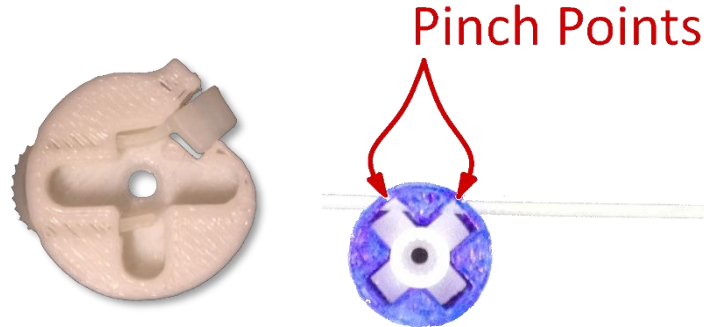
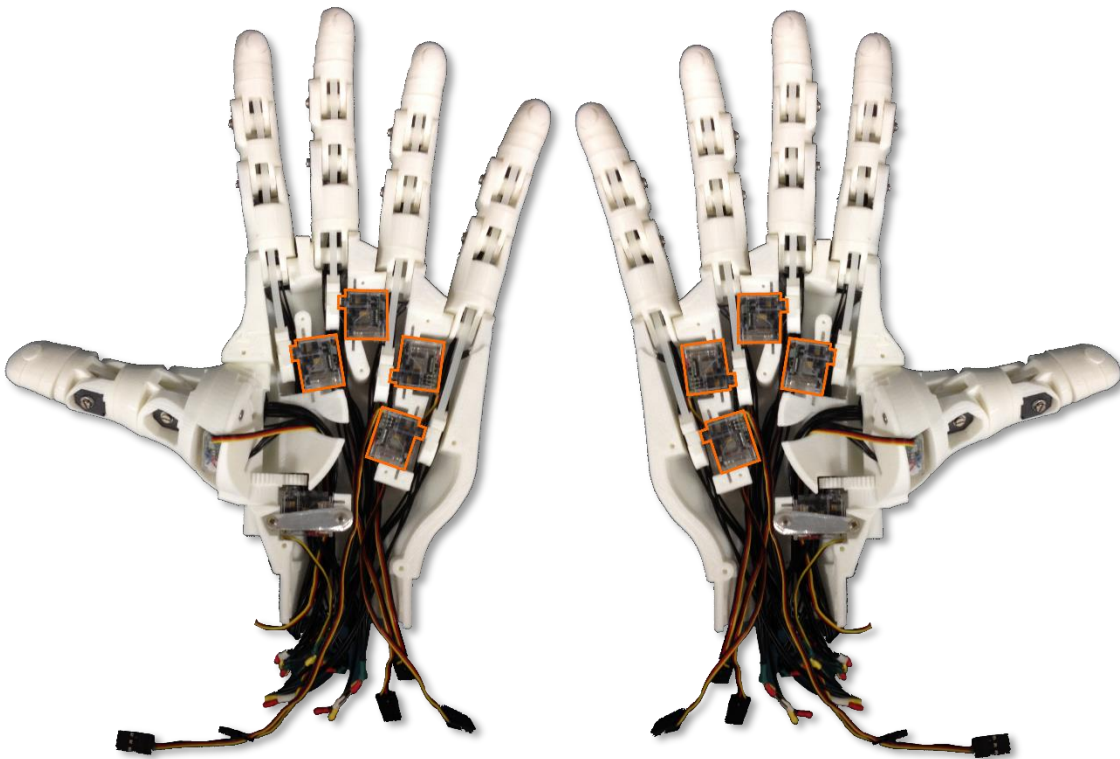

Figure 16: Zip-tie receiver installed in servo spool (left), and zip-tie installed in thumb servo spool (right)
Figure 20: Servo installation and finger tensioning complete, showing servo positions for right and left hand
1. Rotate servo to the full forward position using the Arduino sketch Pot_to_Servo_Control.ino. Wiring for this sketch is explained in section 13.1 . See Figure 16 for the definition of full forward position. Servo orientation matters for this operation, and changes depending on the finger in question. Refer to Figure 20 for correct servo positioning.
6. Pass the tendon zip-tie through the zip-tie receiver on the servo spool (or through the spool itself in the case of the thumb spool). There should be no slack in the zip-tie when the finger is fully extended, the servo is fully rotated forward, and the servo is installed in the dorsal palm. Trim the free end of the tendon zip-tie. Figure 20 shows the completed tensioning and servo installation.